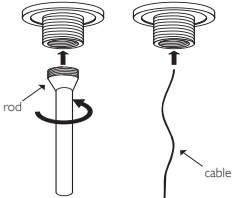

Fig. 4.2
- 7. Take the membrane hanger and attach it to a rod, a cable or alike, as seen in fig. 4.2.